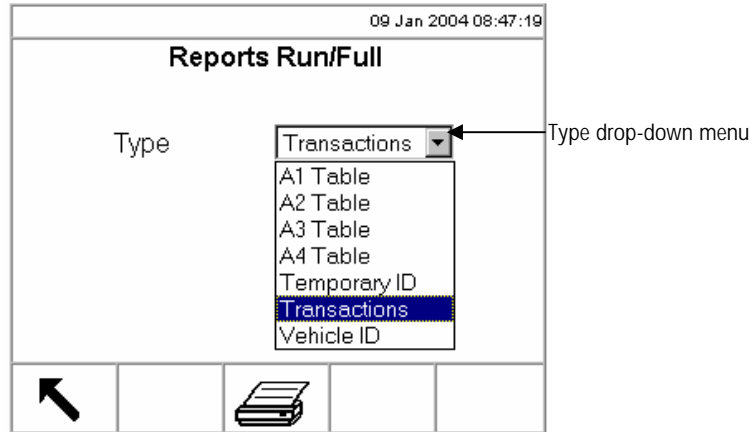

Figure 2-15: Reports Run/Full Screen
1. Press the RUN REPORT softkey . The Reports Run/Full screen displays (see Figure 2-15).